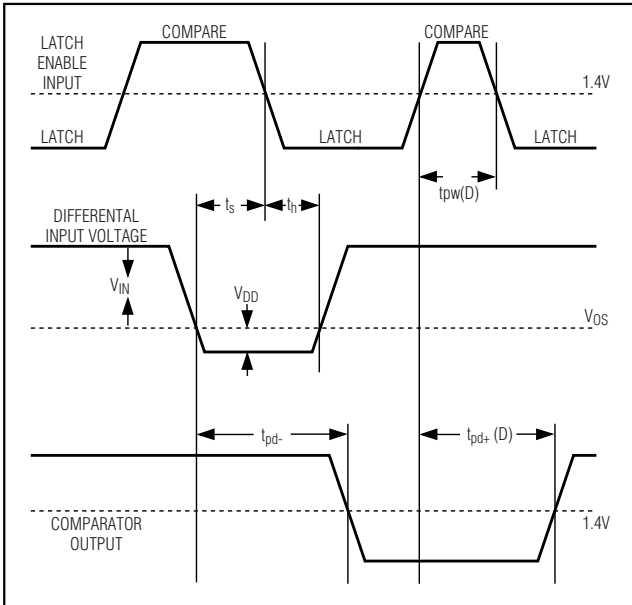

Figure 2. MAX900/MAX902/MAX903 Timing Diagram
**Note 6:** See Timing Diagram (Figure 2). Owing to the difficult and critical nature of switching measurements involving the latch, these parameters cannot be tested in a production environment. Typical specifications listed are taken from measurements using a high-speed test-jig.